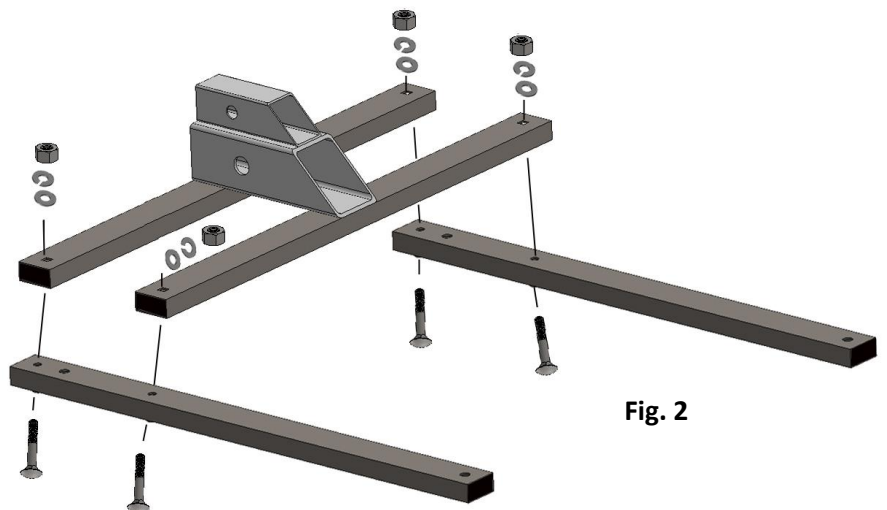

Fig. 2
1. Per Fig. 2, position the legs (B) below the frame (A) as shown. Insert the 8mm bolts (C) through frame and legs from the bottom up. Install the 8mm flat washers, then split washers and 8mm nuts onto bolts. Tighten securely using the adjustable or 13mm wrenches. **Be sure rear bolts are installed into the rear most holes per Fig. 2.**